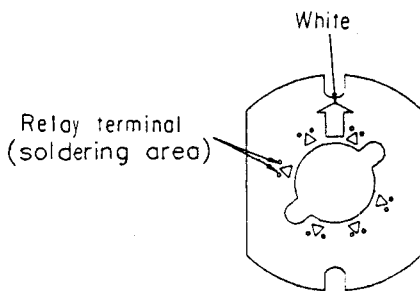

Fig. 4-2-1 Head relay P.C. board
3. Unsolder the relay terminals on the head relay P.C. board. The solder will be removed easily using a desoldering wire. (Fig. 4-2-1, 4-2-2)
6. Match phase of white arrow and marker (solder plated) on the rotary transformer (A) P.C. board, and mount the upper cylinder assembly. (Tightening torque 3 – 4kg.cm)